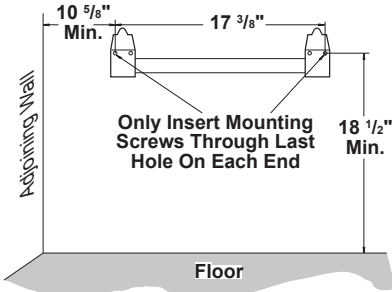

Figure 9 - Mounting Bracket Clearances
2. Mark screw locations on wall (see Figure 9).